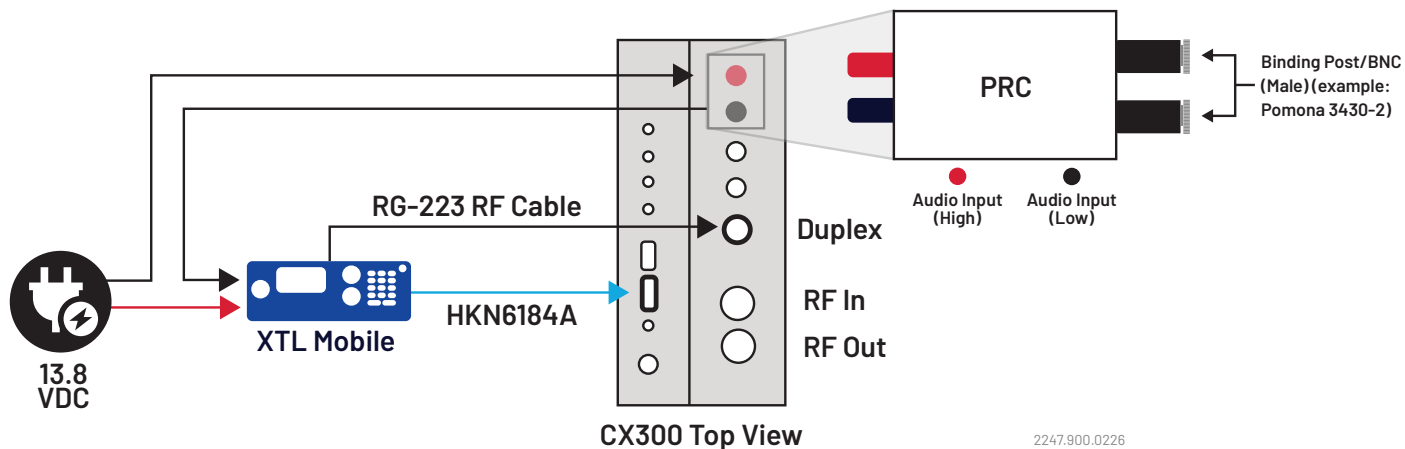

Figure 3. Mobile with Current Shunt
3. Fig.3 is the connection information with Current Shunt and programming cable: HKN6184A